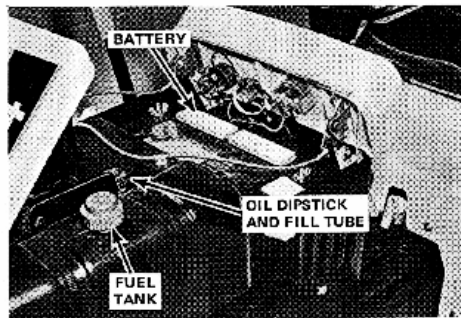

FIGURE 4
1. Check for proper level of engine oil. Fill crankcase through dipstick opening. The oil level is indicated by marks on the dipstick. See Figure 4.
- C. Clean terminals of dirt and corrosion.Refer to Figure 4 for battery and its location.